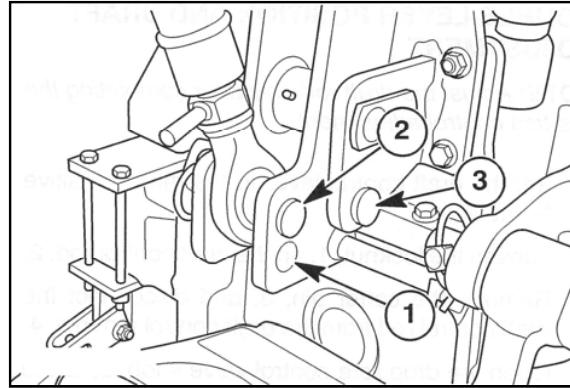

Figure 2-55
The hydraulic lift rocker has two holes for attaching the upper link. Attach the link using the lower hole (1) in Figure 2-55, for light draft loads, such as mowers. Attach the link to the top hole (2) in Figure 2-55, for heavier draft loads, such as ground engaging equipment.
NOTE: Remove the lock pin (3) in Figure 2-55, for the draft control linkage to be operative.